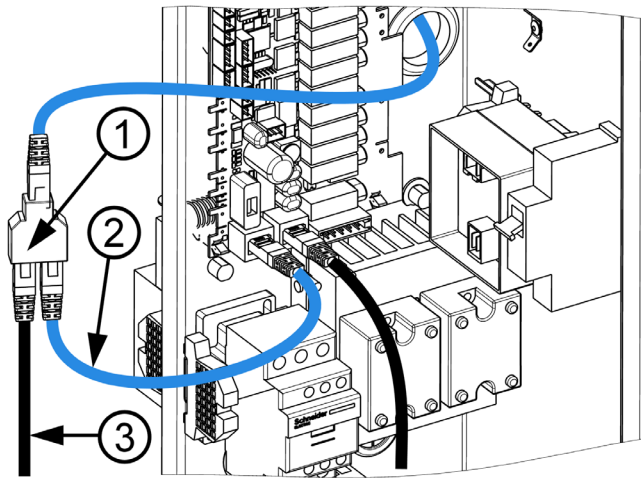

Figure 10: Connecting the RJ-45 splitter
If both ports are already in use (only in the case of appliance size 2011, model Blue), use an RJ-45 splitter (1) and the attached short UTP cable (2), see fig. 10. Connect the original UTP cable (3) to the port as well.